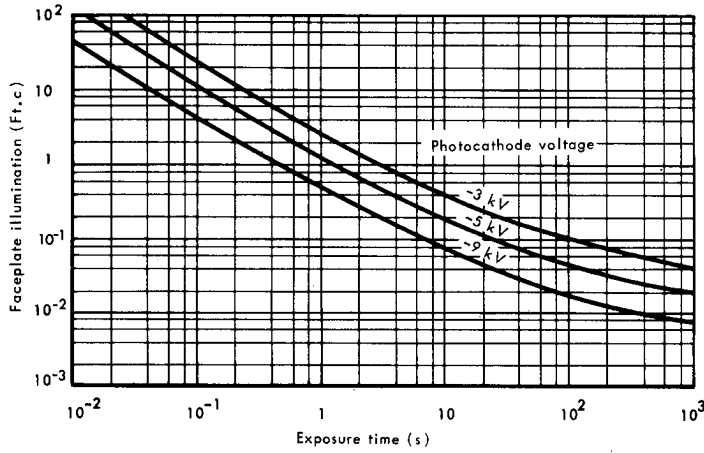

Fig 1 - Maximum exposure levels
- 4 - The tube should not be operated at exposure levels greater than those given in figure 1\*.